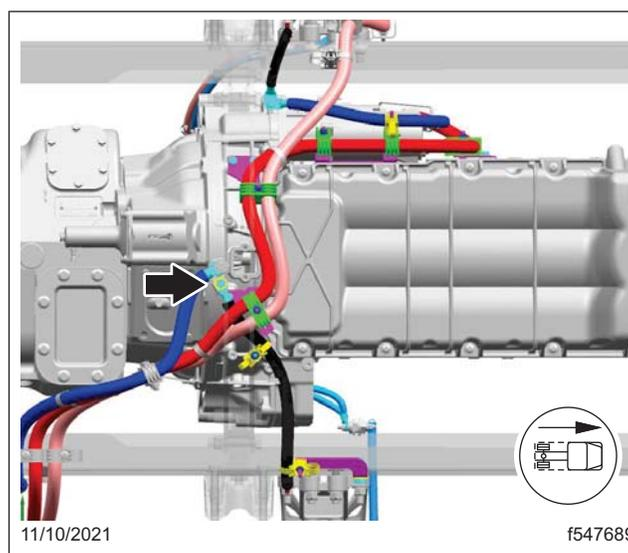

Fig. 35, Aluminum Battery Cable Bolt at the Flywheel Housing
- Remove the negative aluminum battery cable bolt at the flywheel housing, then disconnect the negative aluminum battery cable. See Fig. 35.